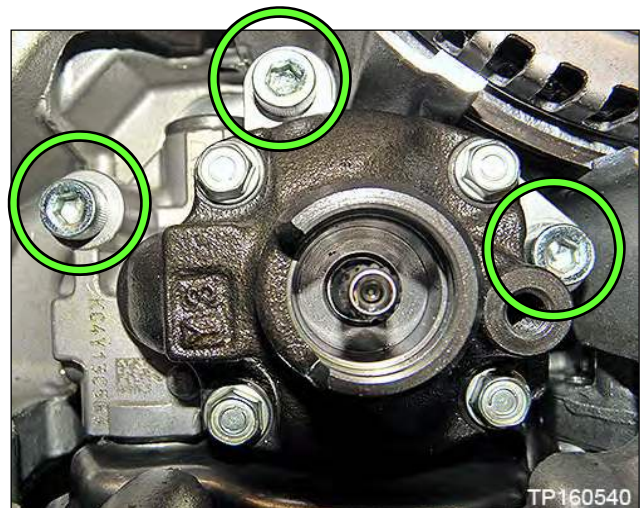

Figure 56
- Remove the three oil pump AllenTM-head bolts, and remove the oil pump (Figure 56).